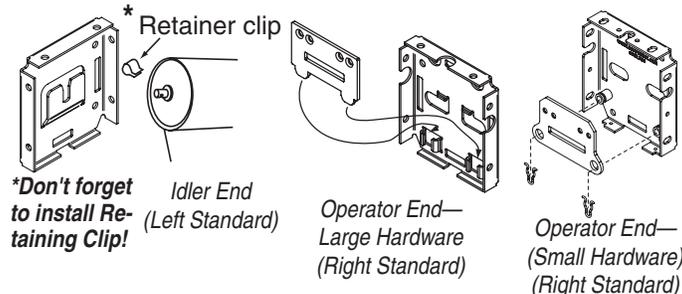

Figure 3
- ⑤ Install the Top (take-up) Roller Assembly. Place operator end into its endcap, then slide notched pin into idler endcap and attach Retaining Clip (see Fig. 3). The Retaining Clip must be installed around the idler-end shaft as shown to prevent the roller assembly from moving left or right during operation.